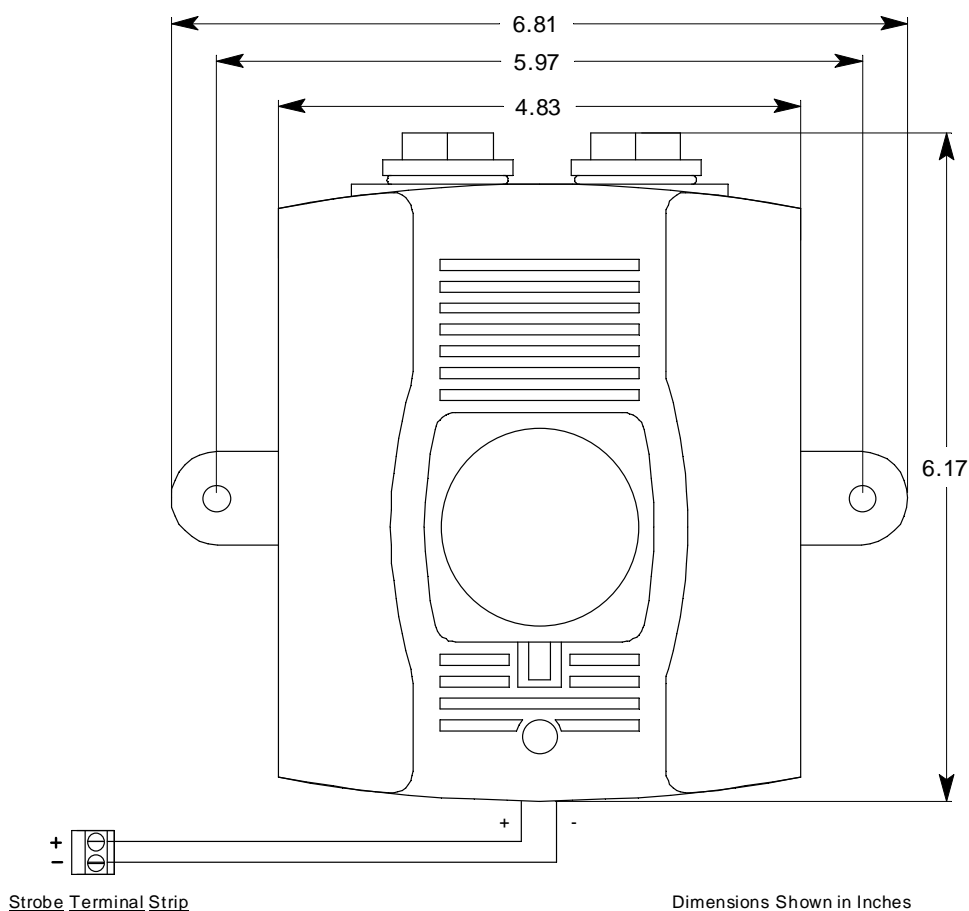

Figure 8: Horn/Strobe Wiring/Outline and Mounting Dimensions
- Connect the leads from the external alarm device and an external power source to the selected channel alarm or common/channel alarm relay contact terminals as shown in Figure 8.